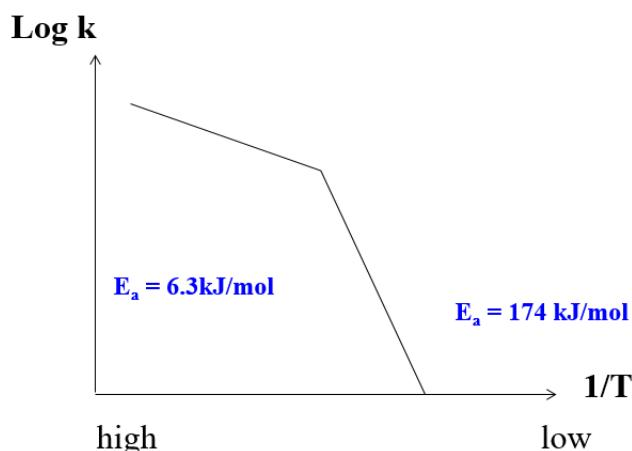

Figure 2: The effect of temperature on the reaction.
- (ii). Figure 2 shows the effect of temperature on the reaction between: